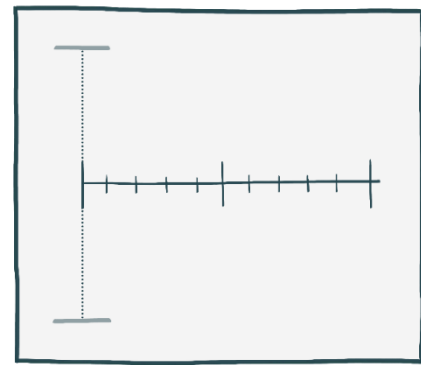

Fig. 2
4. Draw a millimeter scale from 0 - 10 cm on an A5 sheet of paper (see Figure 2).